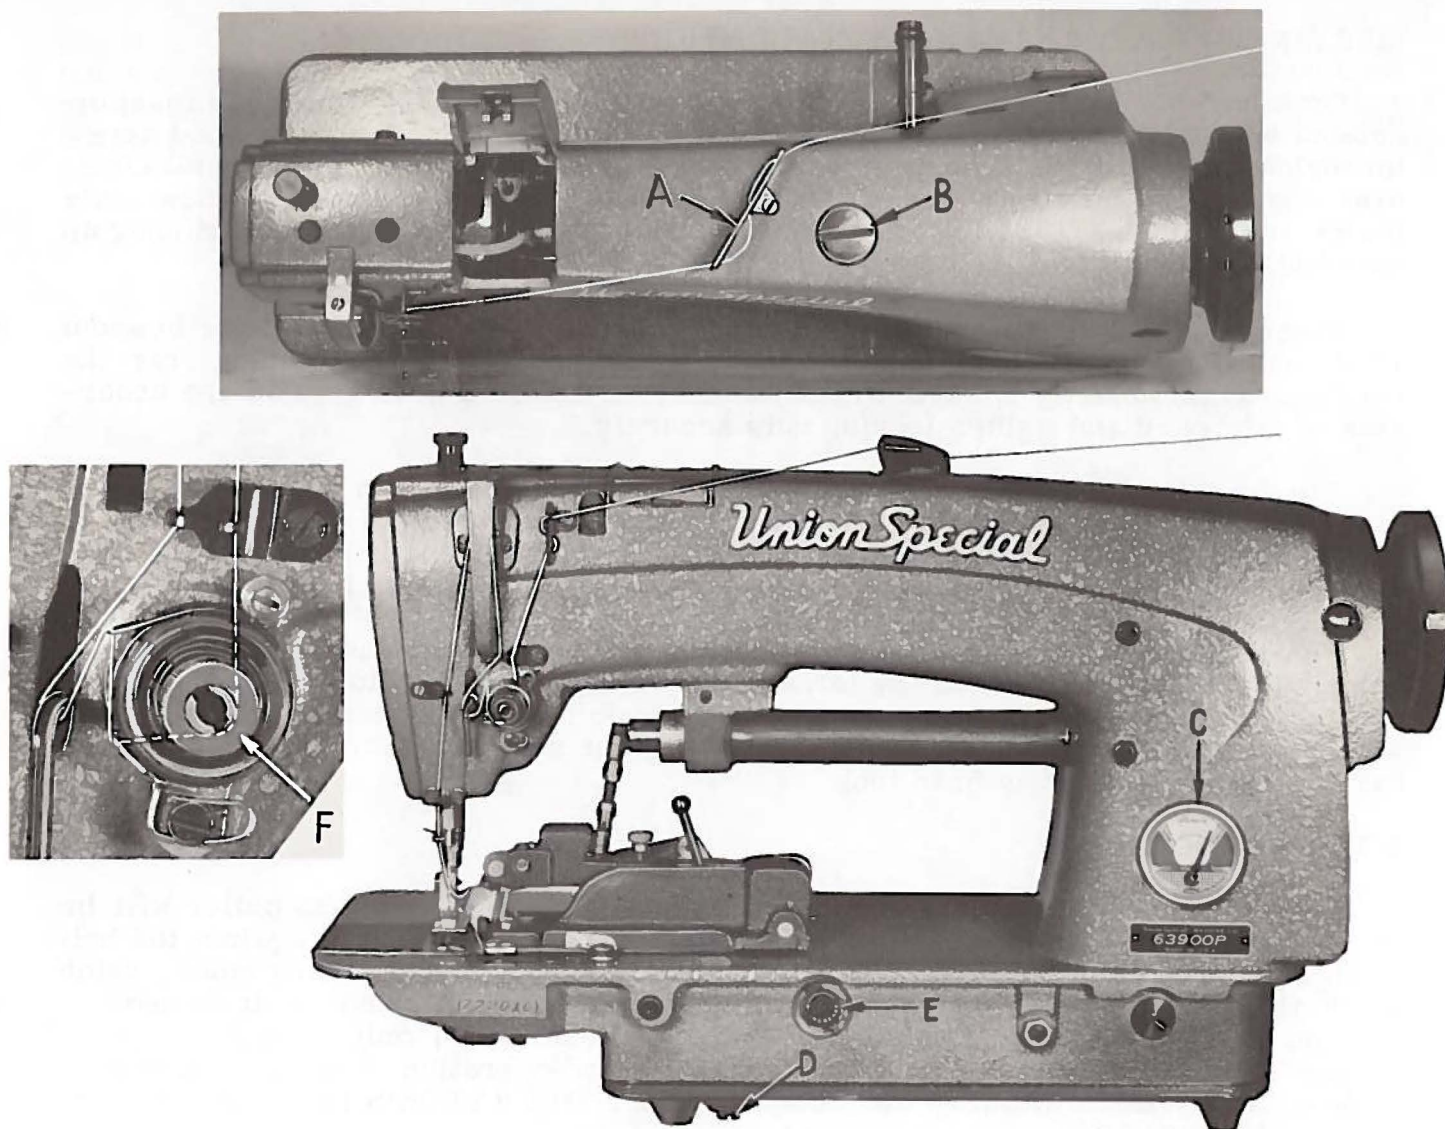

Fig. 2
Thread machine as indicated in Fig. 2. Threading at check spring has been enlarged for clarity. Needle is threaded from left to right.
Fill main reservoir at plug screw (B, Fig. 2) and check oil level at gauge (C); oil is at maximum level when needle is in yellow band marked "FULL". Oil should be added when needle is in yellow band marked "LOW". Use a stainless water-white straight mineral oil of a Saybolt viscosity of 90 to 125 seconds at 100° Fahrenheit in the main reservoir. This is equivalent to Union Special specification No. 175.
Oil may be drained from main reservoir by removing plug screw (D, Fig. 2).